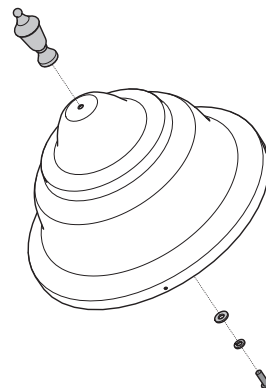

Figure 1
1. Assemble the finial and cover with the provided hardware [Figure 1].